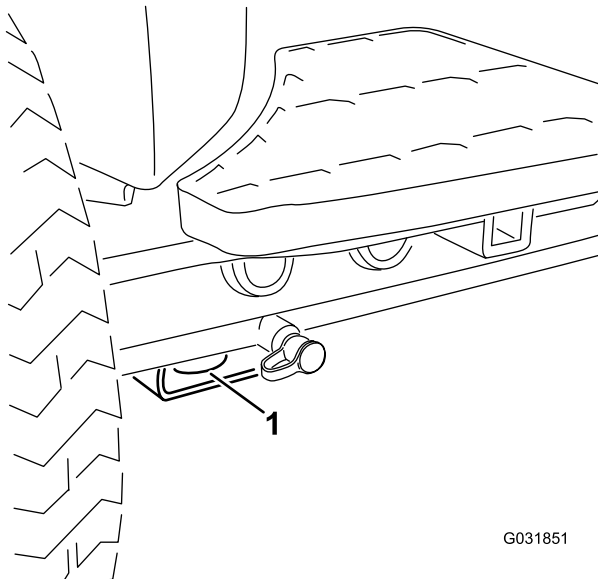
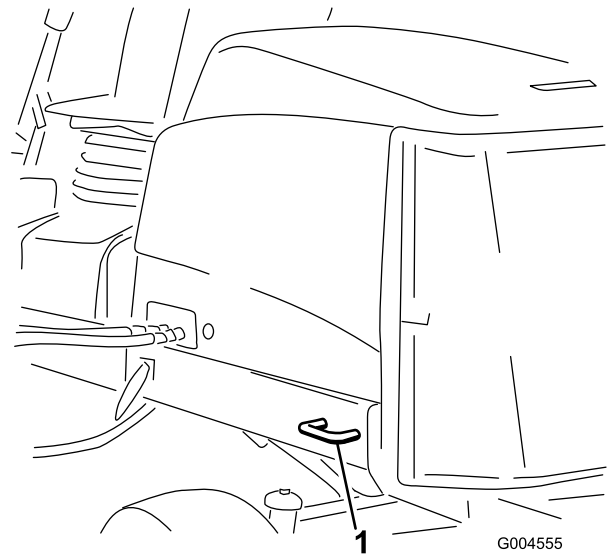

Figure 38
Figure 39
5. Use the metal tie-downs on the machine to securely fasten the machine to the trailer or truck with straps, chains, cable, or ropes (Figure 38 and Figure 39).
- Front—the hole in the rectangular pad, under the axle tube, inside each front tire (Figure 38)
- Rear—each side of the machine on the rear frame (Figure 39)